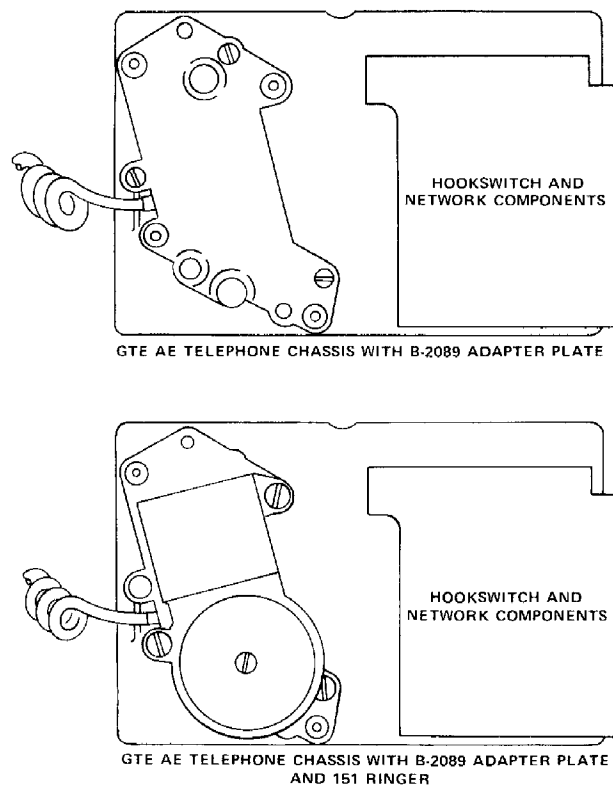

Figure 19. Adapter Plate and Ringer Location.
- (b) Using the three 6-40 X 5/16 screws (for a GTE AE chassis) or the two 4-40 X 1/4 screws (for a Stromberg-Carlson chassis), mount the 2089 adapter plate to the telephone chassis where the ringer was located. See Figure 19 for correct positioning of parts.